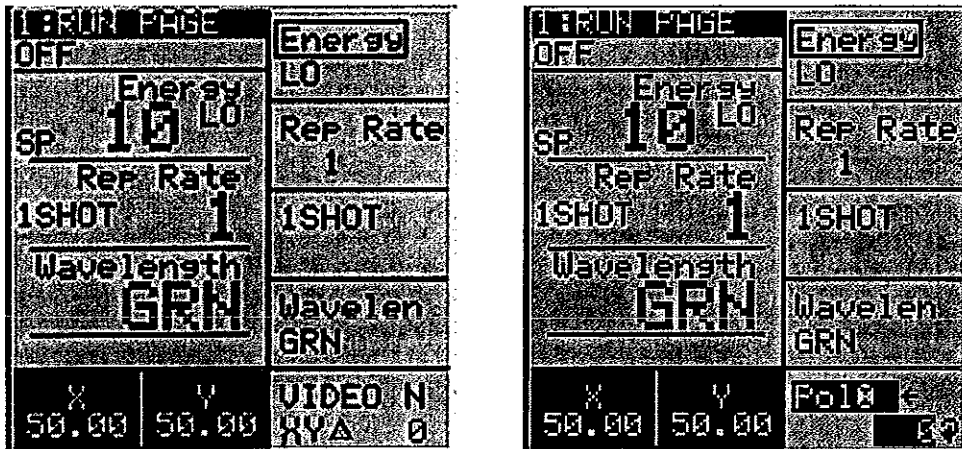

Figure 3-3: Standard Run Page and Run Page with Polarizer Option
- 6) There are four recessed screws that secure the pump chamber to the terminal block and resonator. Turn the four recessed screws counter clockwise to release the pump chamber, Figure 3-3.